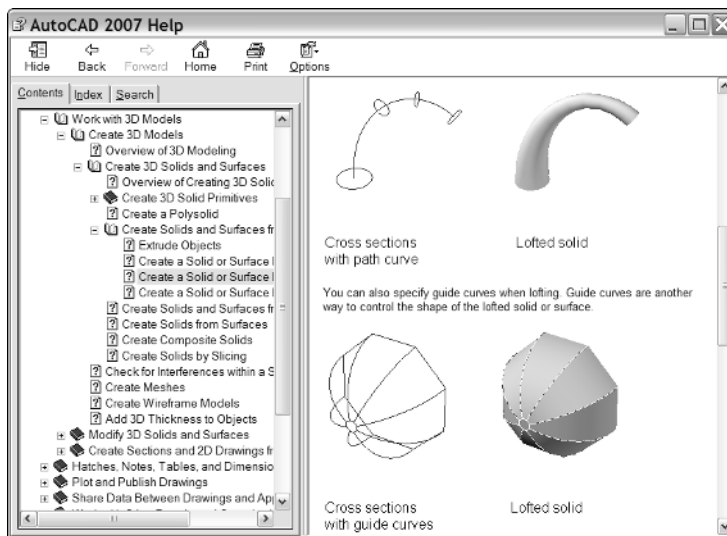

Figure 9-12:
- ✓ **Online help system:** Choose Help→Help, or press the F1 key. In the left pane of the Help window, expand User's Guide, and then click Work With 3D Models. Figure 9-12 shows a help section on lofts and sweeps. (We know, once upon a time this would have been in a printed manual!)